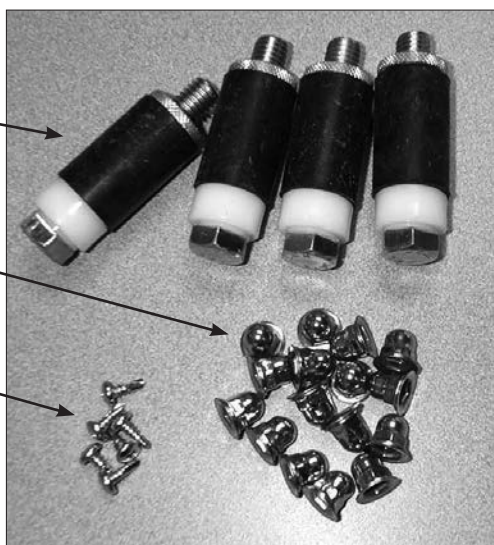

Figure 1
STEP 2: Insert the expander leg bolts **(C)** thru the bottom shelf and assemble the bushings and knurled nut as shown in **Figure 1**.